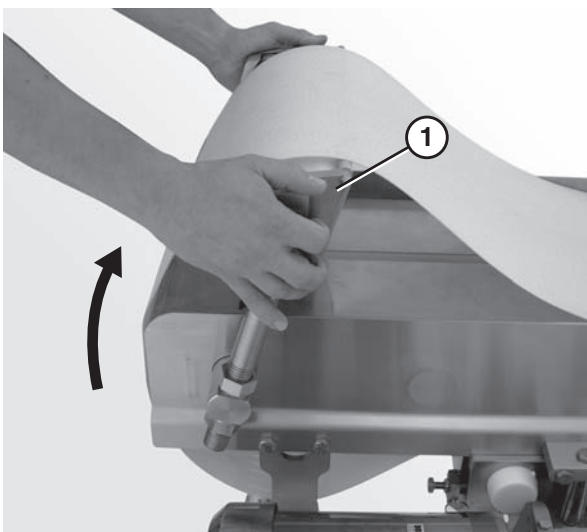

Figure 54
1. Place the idler tail (Figure 54, item 1) in the up position.